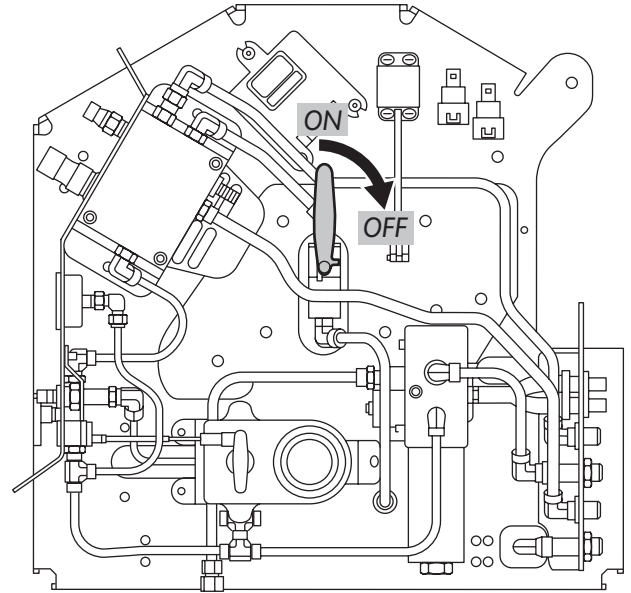

FIGURE 3 – CYLINDER MANUAL SHUT-OFF VALVE
2. Turn the valve handle clockwise one 1/4 turn to the OFF position. (Figure 3)